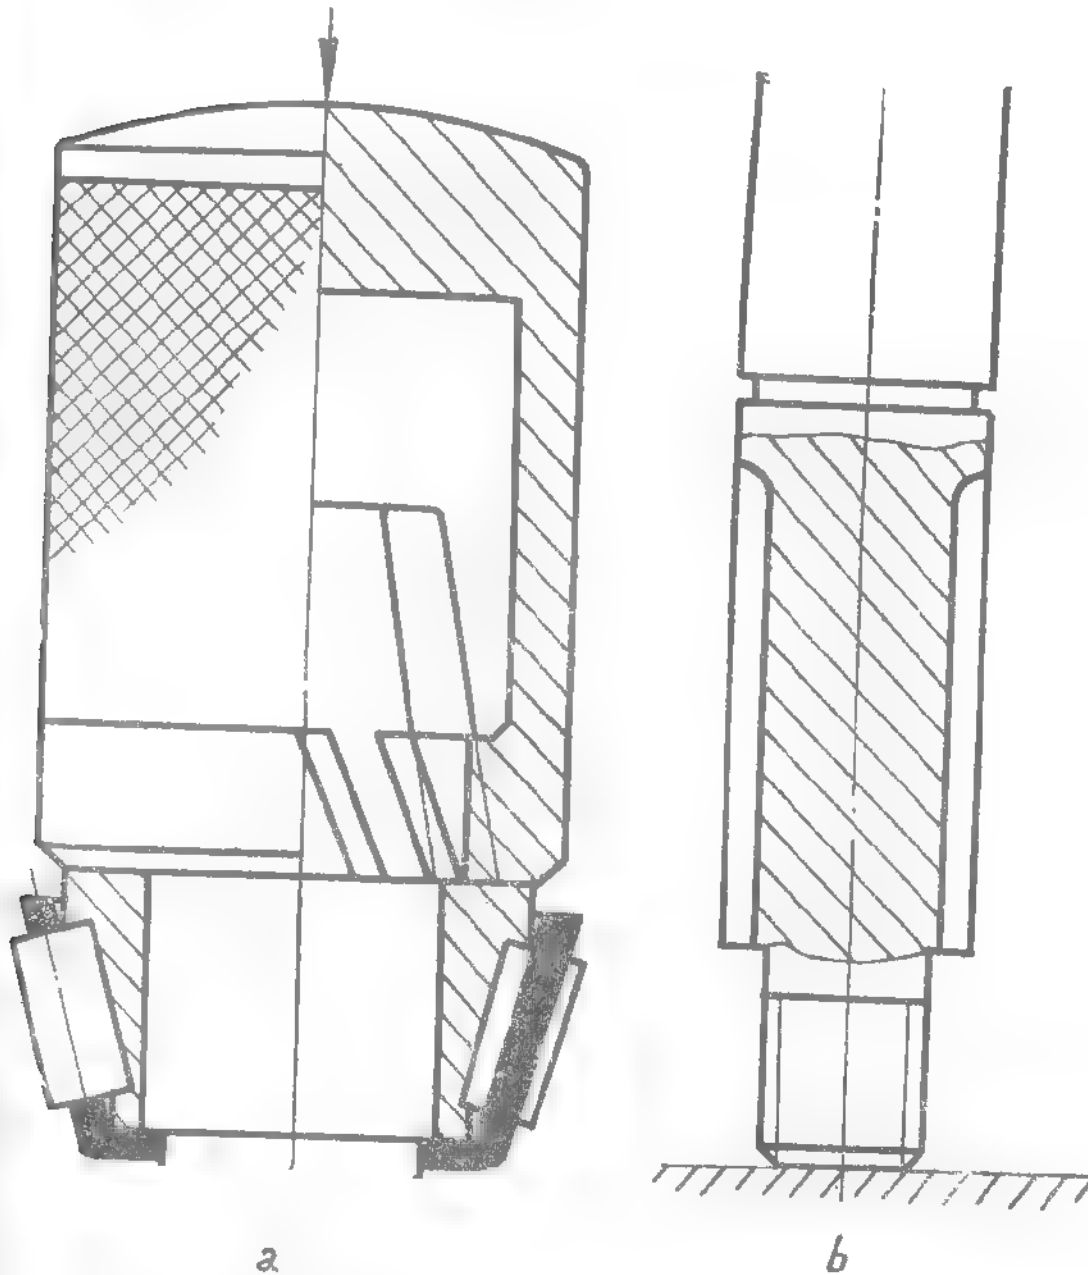

Fig. 4. 115. EXTRACTING DRIVE PINION REAR BEARING INNER RACE
- Depress inner bearing race from off the driving pinion shaft, using the S 133 extracting bushing (see Fig. 4. 115)